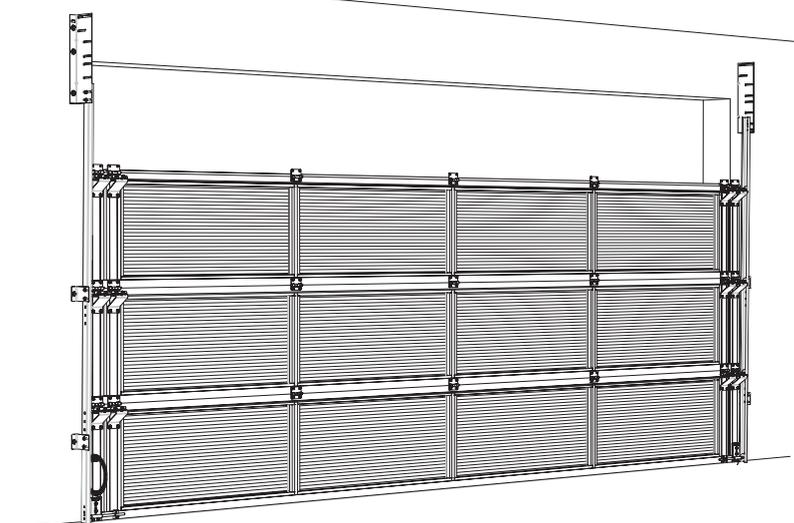

Fig: 3.3.3
- d) Repeat this procedure for all other panels with the exception of the top panel which is positioned after the horizontal track is installed Fig 3.3.3.